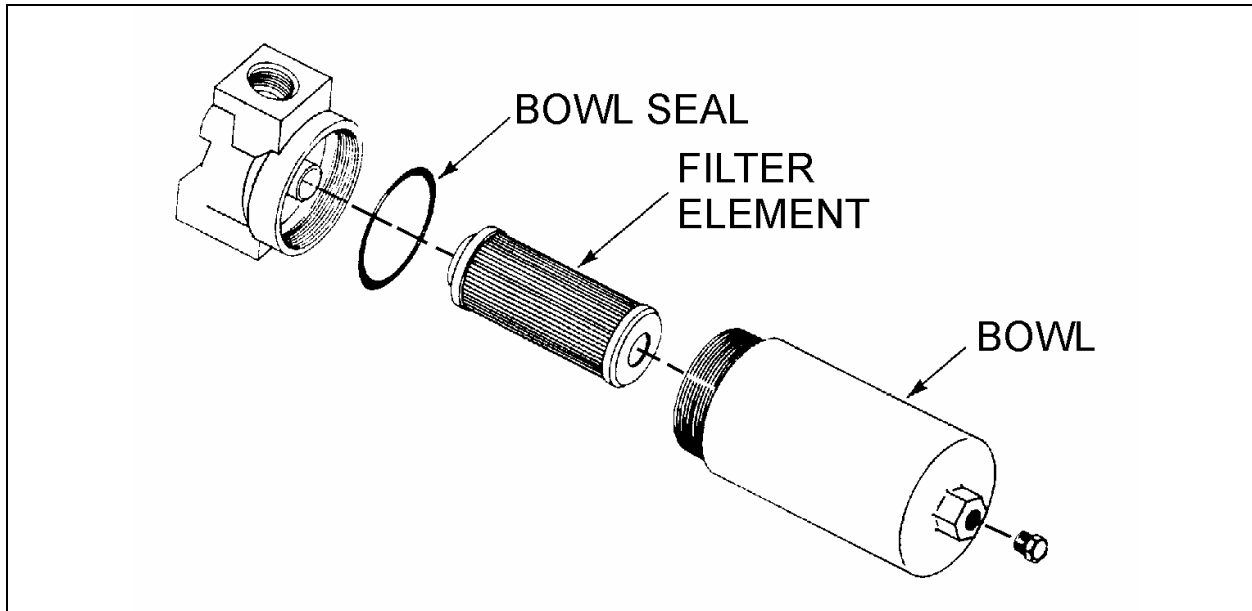

FIGURE 59: WATER FILTER
3. Rotate bowl (Fig. 59) counterclockwise and remove.
4. Remove filter element (Fig. 59) from housing.